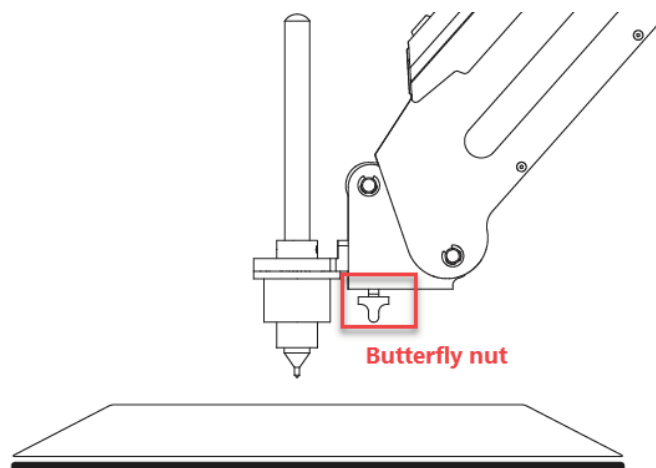

Figure 5.36 Install a writing and drawing kit
Step 2 Fasten the writing and drawing kit to the Dobot Magician's end with a butterfly nut, as shown in Figure 5.36.